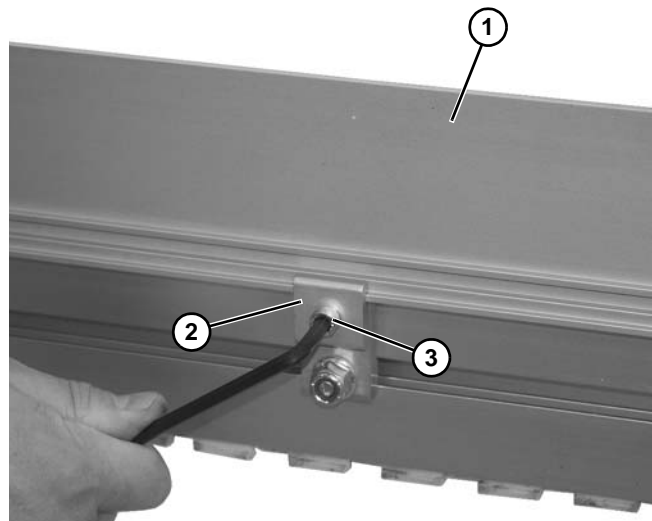

Figure 76
5. Install guide (Figure 76, item 1) and retaining clip (Figure 76, item 2) to conveyor side rail with socket head screw (Figure 76, item 3).